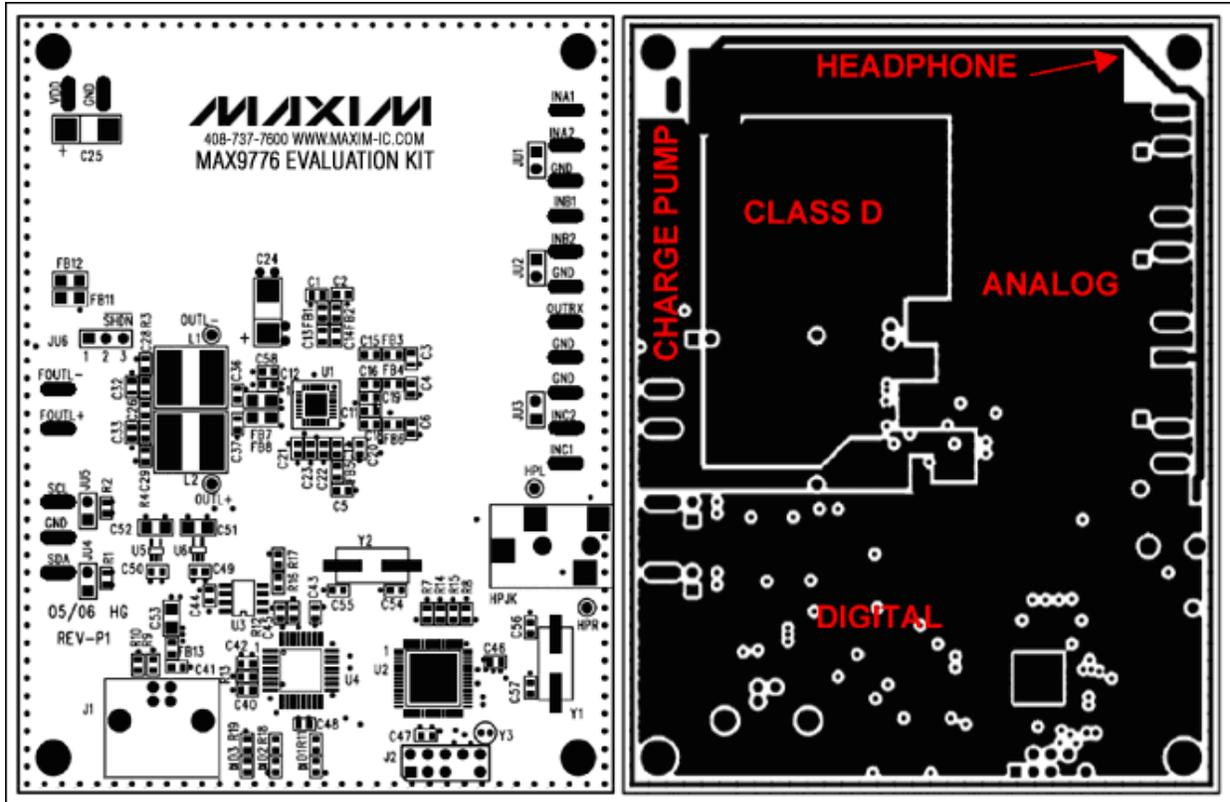

Figure 3. Example of a silkscreen and ground layer of a well-grounded design.
**Figure 3** shows an example of a well-grounded system. Note, first, that the PCB is partitioned into a digital section at the bottom and an analog section at the top. The only signals crossing the partition boundary are I2C control signals, and these have a direct return path following the signal trace. This layout ensures that digital signals will remain in the digital section of the board and that no digital ground currents will be blocked by the splits in the ground plane. Also note that most of the ground plane is uninterrupted. Even in the digital section where there are interruptions, they are far enough apart to allow currents to flow freely.